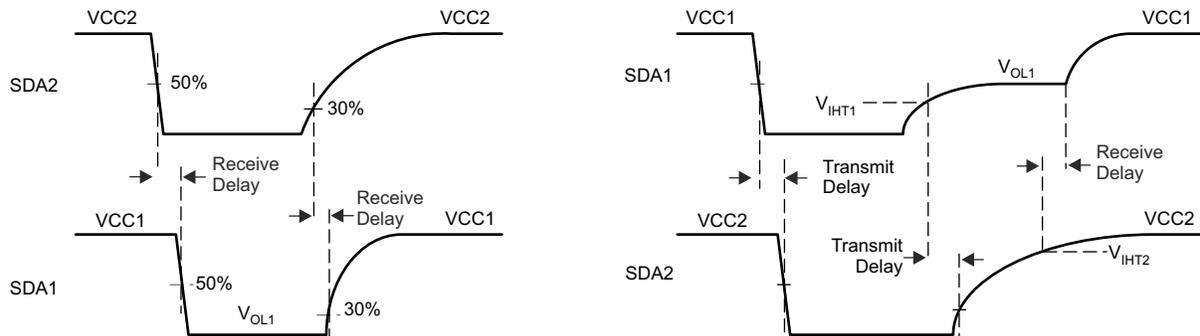

Figure 8-5. SDA Channel Timing in Receive and Transmit Directions
Figure 8-5 demonstrate the switching behavior of the I²C isolator, ISO164x, between a master node at SDA1 and a heavy loaded bus at SDA2.
8.5.1 Receive Direction (Left Diagram of Figure 8-5)
8.5.2 Transmit Direction (Right Diagram of Figure 8-5)